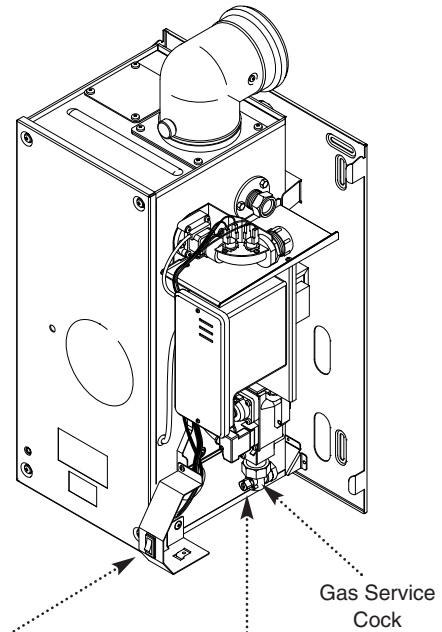

Fig. 34
5. Turn the gas service cock anticlockwise to the ON position and check for gas soundness up to the gas valve (Fig. 34).